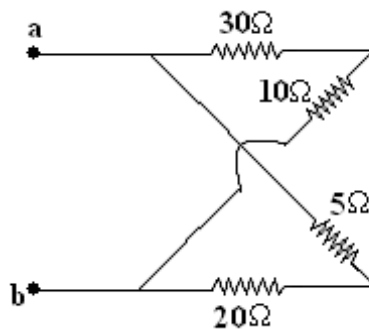

Figure 6b
- (b) Find the voltage needed across terminals a-b shown in the figure 6b so that the drop across the 10Ω resistor is 30V. Also find the corresponding voltage drop across the 5Ω resistor. [8+8]